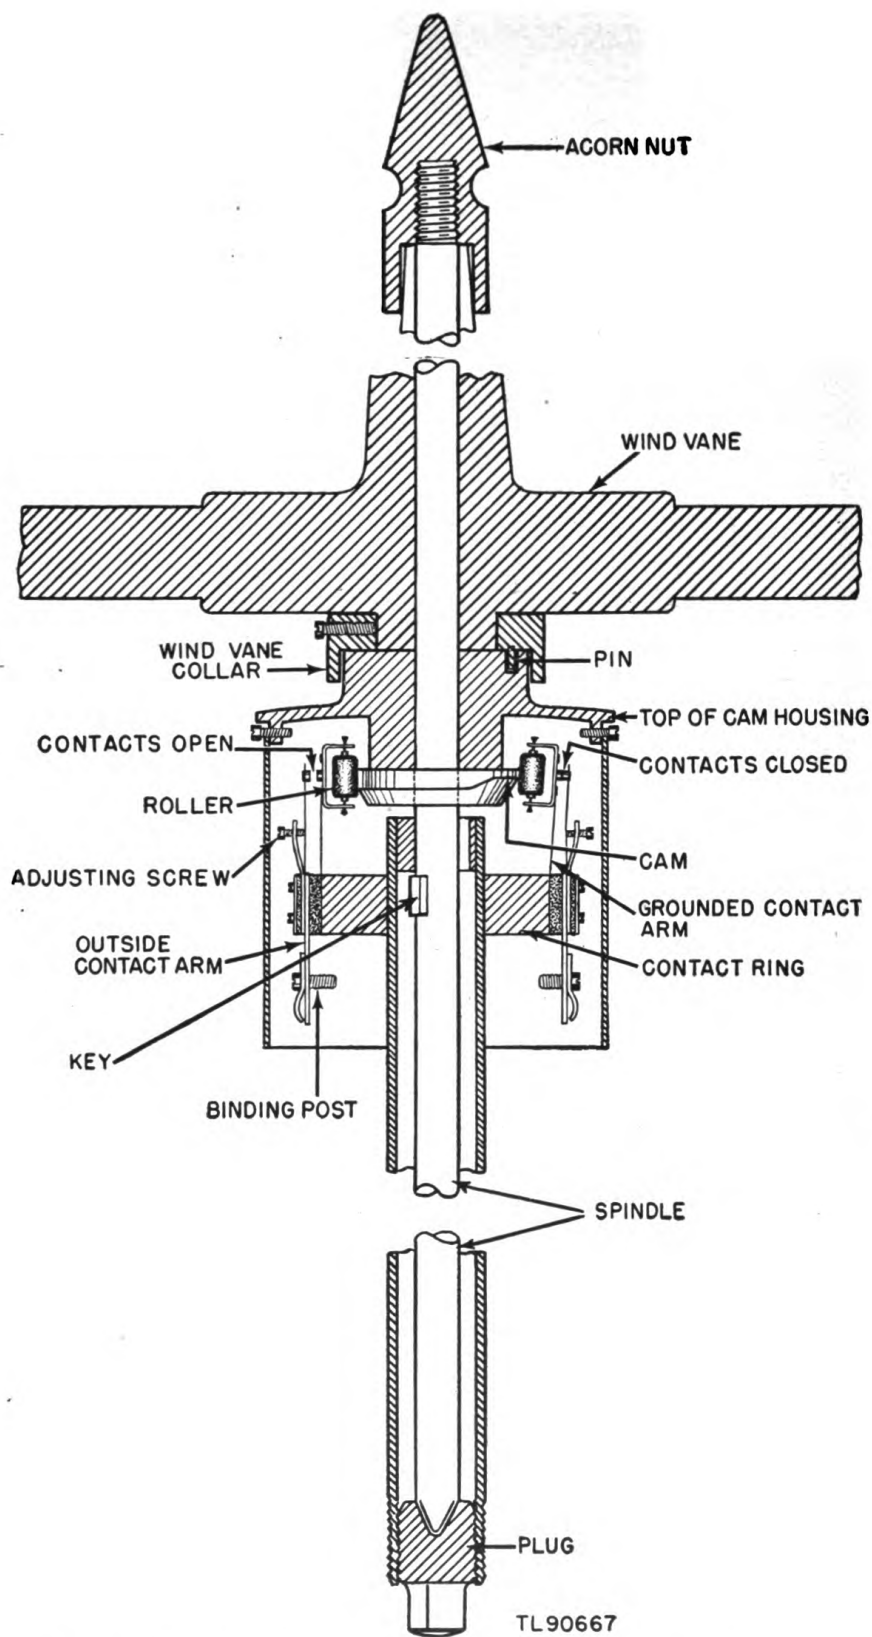

Figure 10. Bearing ML-129-B or ML-129-E, cross section view.
b. Mast. (1) Tighten the turnbuckles of loose guy rods.
(2) Tighten loose lag bolts in the base and anchor shoes.
(3) Tighten loose setscrews of foot rungs.
c. Wind-vane assembly (fig. 10). (1) *Spindle.* (a) Turn the wind vane by hand, lifting slightly. When the key on the spindle is felt to enter the keyway in the bearing, lift out the spindle assembly.
(3) Drop the rainshield, and rewire the contacts to an Indicator ML-117-(*).
b. Adjusting contact arms. (fig. 10). (1) The contact arms must be perpendicular to the contact ring.
(2) Unscrew the contact adjusting screws until their ends are flush with their respective retainers (away from the outside contact arms).
(3) Remove the spindle and check the rollers to see that they rotate freely.